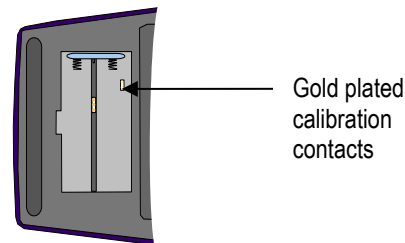

Figure 2. Link has to be placed across gold plated calibration contacts
- Using tweezers, place a link across gold plated calibration contacts inside battery compartment, Figure 2. Turn on external power via USB-C (or micro-USB on older version).